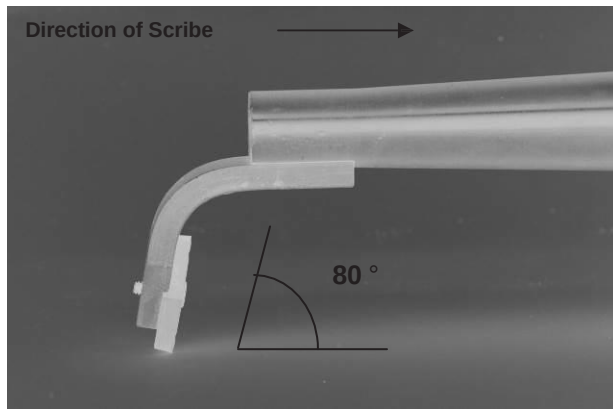
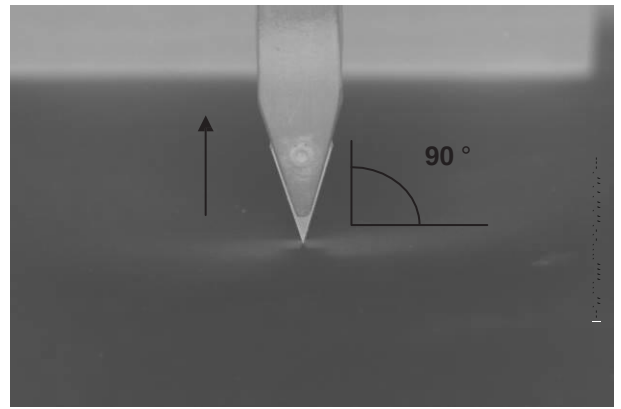

Figure 3
Figure 4
1. The scribing tool shall be applied so the cutting edge is at an 80° angle in the scribe line direction and 90° with the plane of the panel. See Figure 3 and Figure 4 respectively.